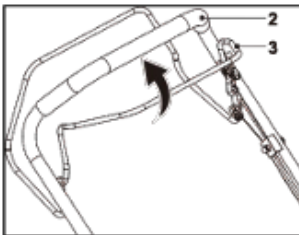

Fig. 10
1. Pull the brake lever (3) and hold it against the upper handle (2) while starting the engine. Keep it squeezed during operation (Fig. 10).
2. Release the brake lever (3) to stop the engine.
1. Pull the brake lever (3) and hold it against the upper handle (2) (Fig. 10).